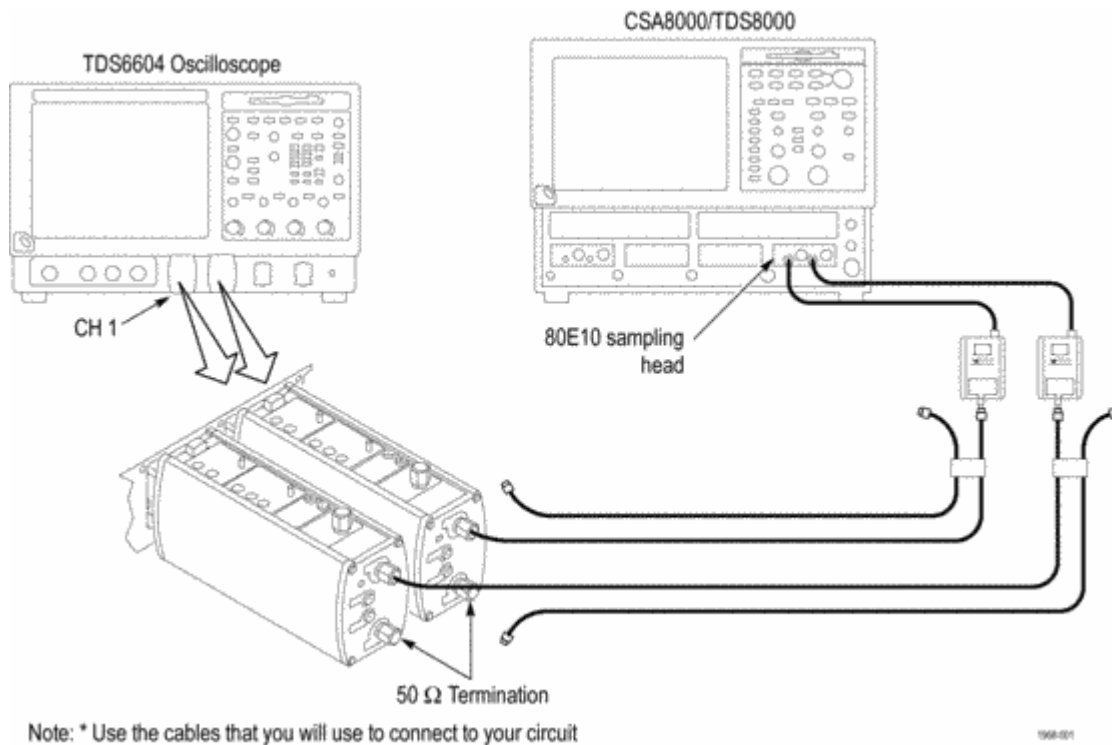

Figure 14: Deskewing two P7313SMA probes
A setup is shown for checking and deskewing two probes. (See Figure 14.) Deskewing aligns the time delay of the signal path through the oscilloscope channel and probe connected to that channel, to the time delay of other channel/probe pairs of the oscilloscope.
3. Attach the probes to the TDR outputs. (See Figure 14.)